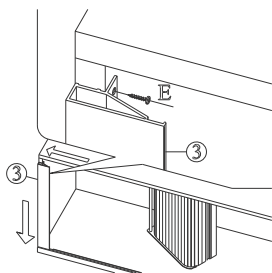
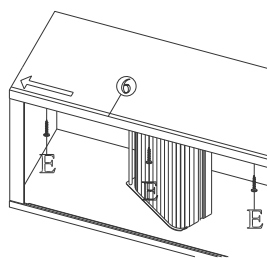

Fig.3
Fig. 4
3. Similarly fix the Top track and Right track as shown in Fig. 3 and Fig. 4. respectively.